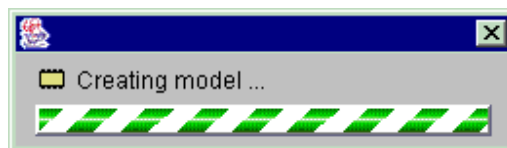

Figure 70 : Creation of a model new version
- A bar graph (Figure 70) indicates that the new version of the *Component_C* is being created.